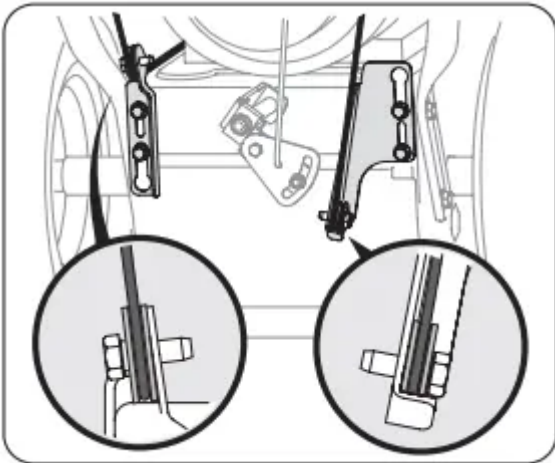

Figure 2
- Observe the lower rear area of the snow blower to be sure both cables are aligned with roller guides before pivoting the handle upward. See Figure 2.